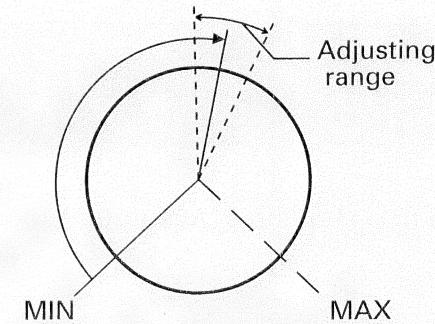

Fig. 13
- The volume's set point is not indicated on the display when you adjust the volume on the head unit by tuning the volume control. In this case, set the volume control on the head unit to the position illustrated below, in accordance with step 2. (Fig. 13)